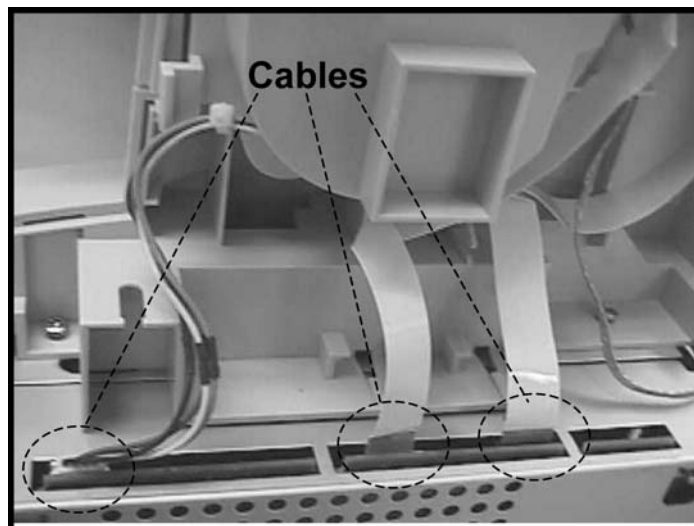

Figure 3
7. Disconnect the cables shown in figure 3.